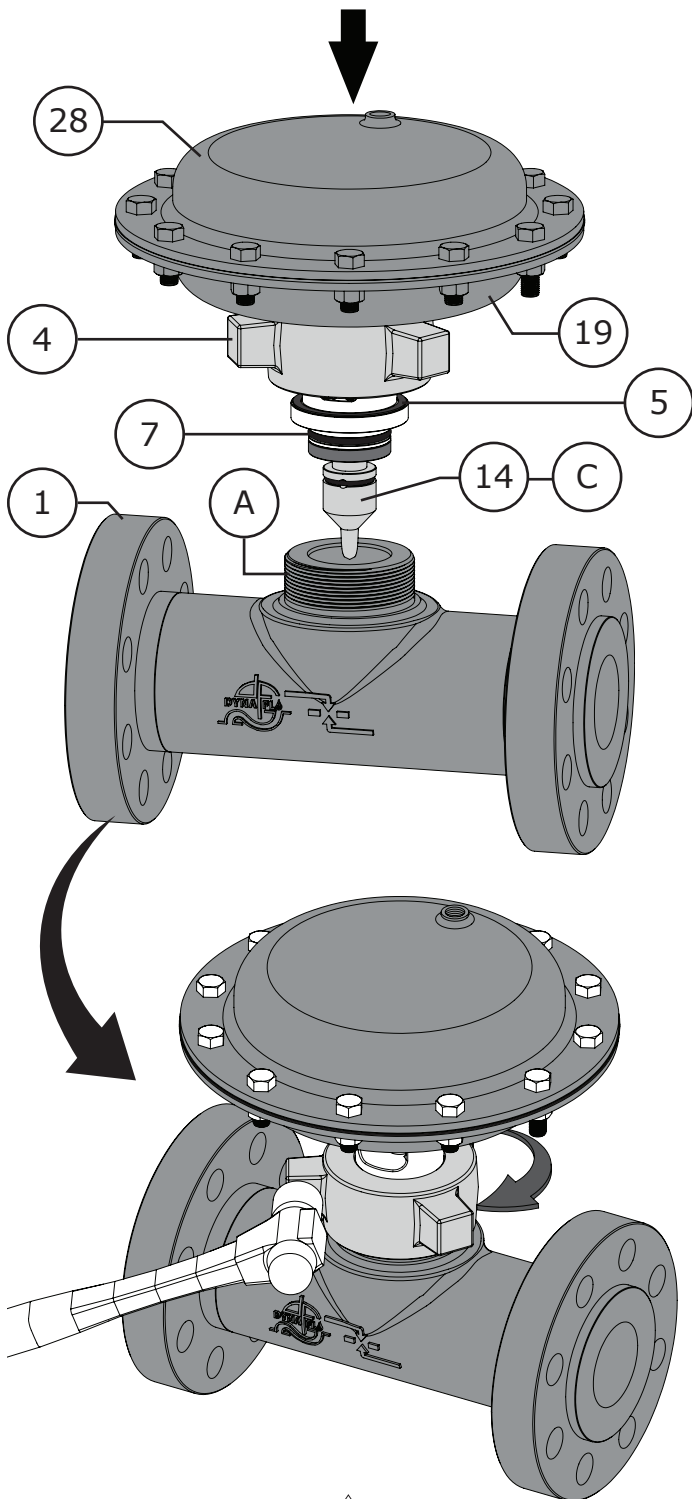

Figure 9 Actuator/Valve Assembly
- B** Carefully install the bonnet/actuator assembly into the valve (refer to Figure 9) and orientate the window of the bonnet (Key 6) so that it is perpendicular to the valve body (Key 1).
- A** Carefully install the bonnet/actuator assembly into the valve assembly (refer to Figure 9) and orientate the window of the bonnet (Key 6) so that it is perpendicular to the valve body (Key 1).